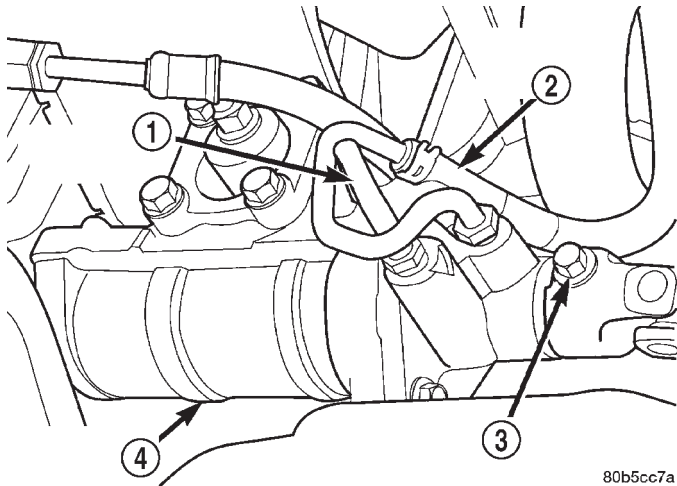
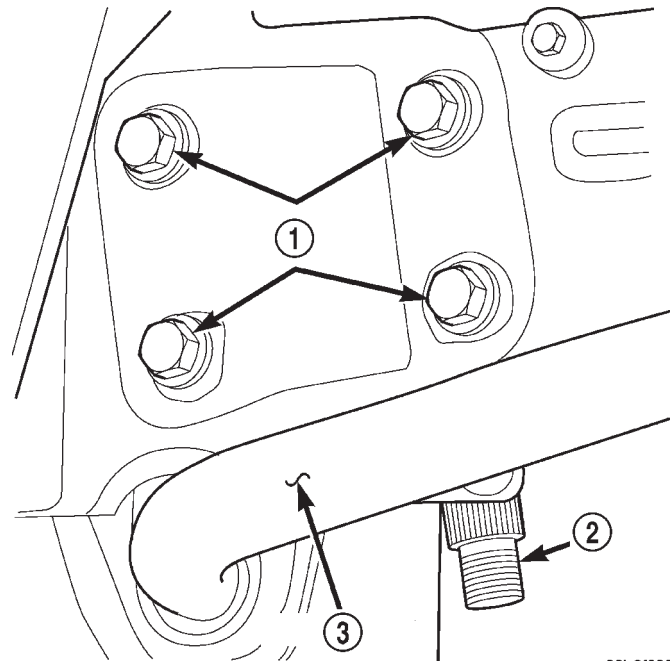

Fig. 2 Pressure And Return Lines
Fig. 3 Steering Gear Mounting
- (1) Place the front wheels in the straight ahead position with the steering wheel centered.
- (2) Remove the air cleaner housing, refer to Group 14 Fuel System.
- (3) Remove and cap the pressure and return lines (Fig. 2) from the steering gear.
- (4) Remove the column coupler shaft bolt (Fig. 2) and remove the shaft from the gear.
- (5) Remove left front wheel and tire assembly.
- (6) Remove pitman arm from gear with Puller C-4150A.
- (7) Remove windshield washer reservoir refer to Group 8 Electrical.
- (8) Remove the steering gear mounting bolts. Remove the steering gear out of the engine compartment (Fig. 3).